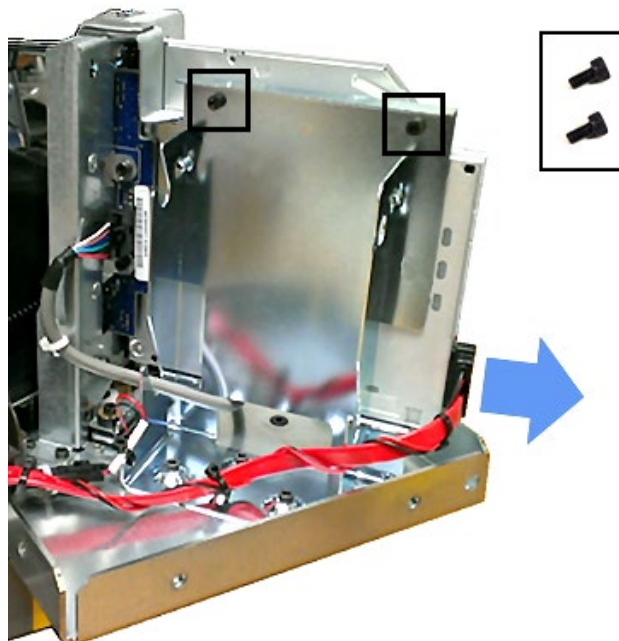

Figure 11
1. Remove the red SATA cable from the back of the disc drive by pinching both sides and pulling straight back. See Figure 11.
2. Using the 2.5mm Hex screwdriver, remove the 2 mounting screws from the bottom of the optical disc drive. See Figure 11.